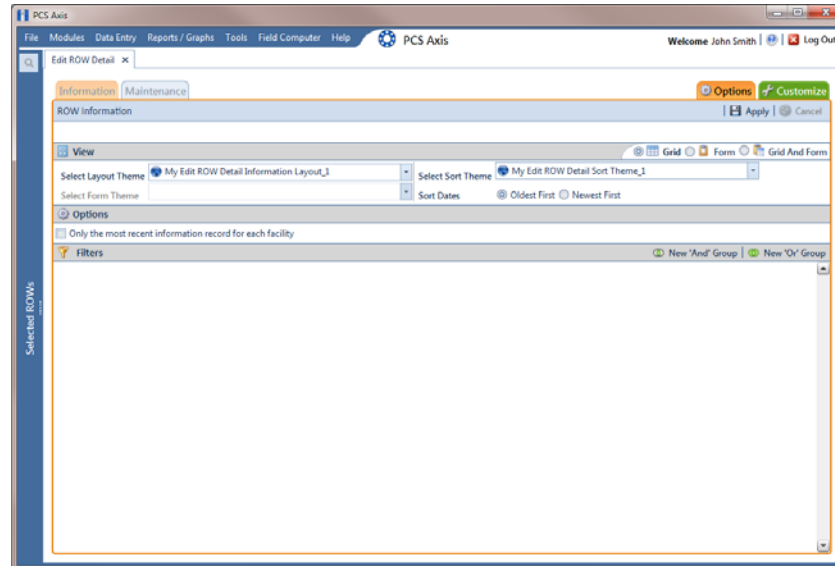

Figure 4-39. Options
- a Click the **Options** tab to open the options page (Figure 4-39, page 163).